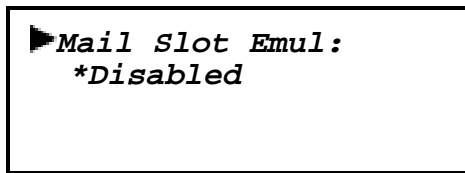

Figure 2-28 Set Mail Slot Submenu
2. Scroll down on the Configure Submenu until you see ‘Set Mail Slot,’ and select that option. The screen shown in Figure 2-28 appears.